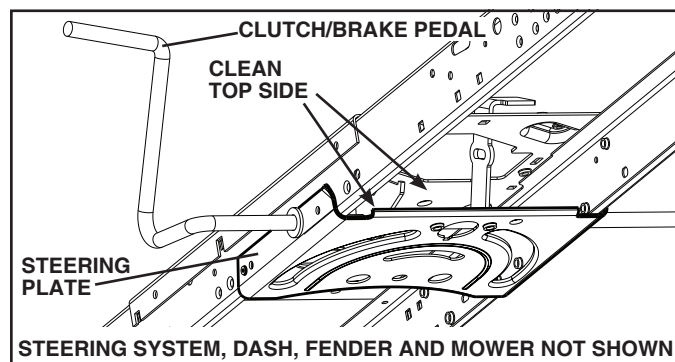

Fig. 27
- Clean debris from steering plate. Debris can restrict clutch/brake pedal shaft movement, causing belt slip and loss of drive. (See Fig. 27.)